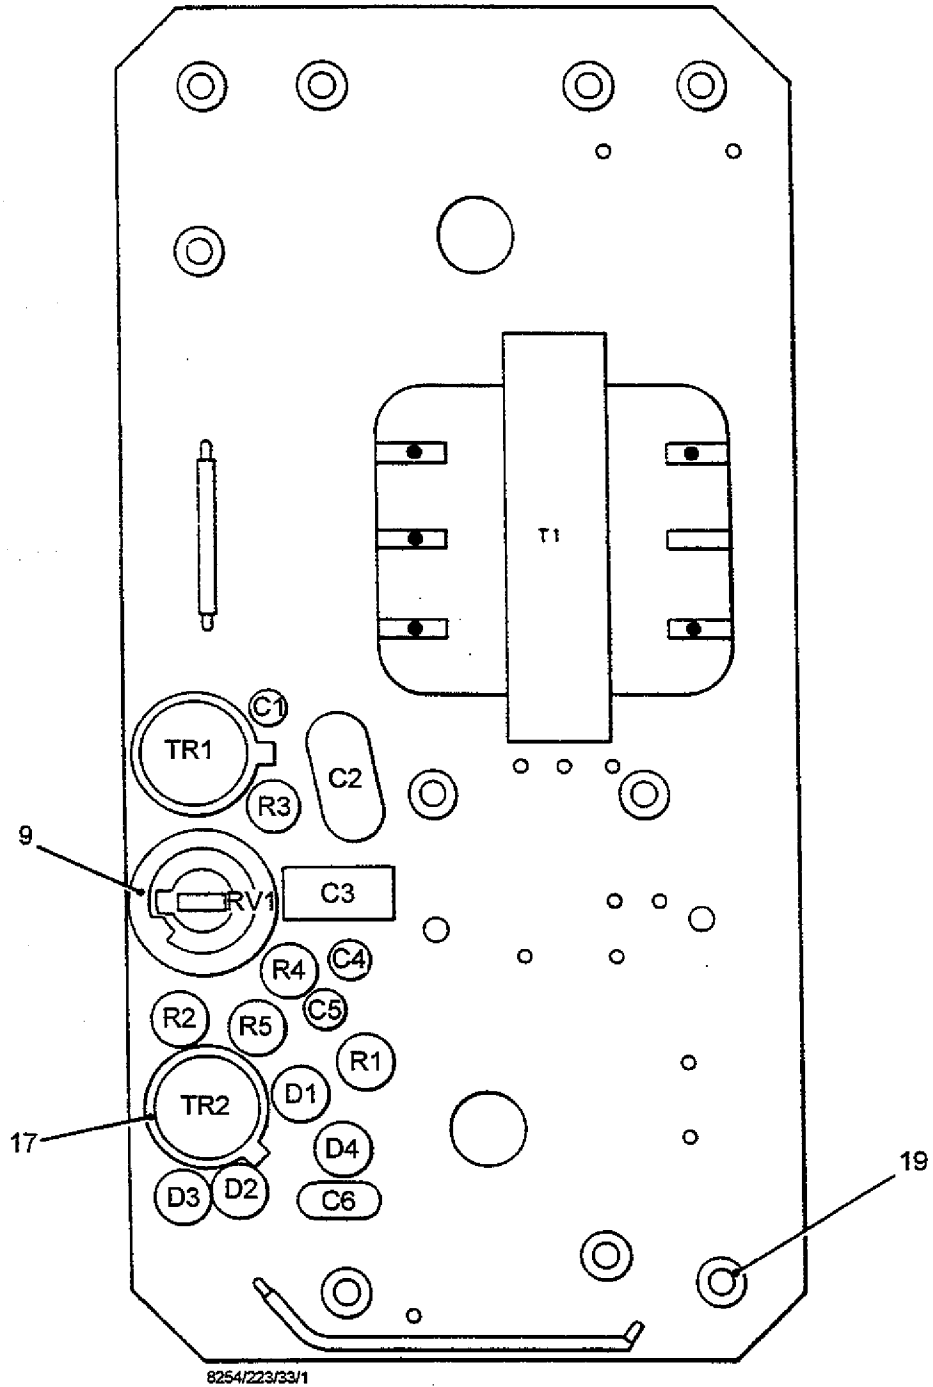
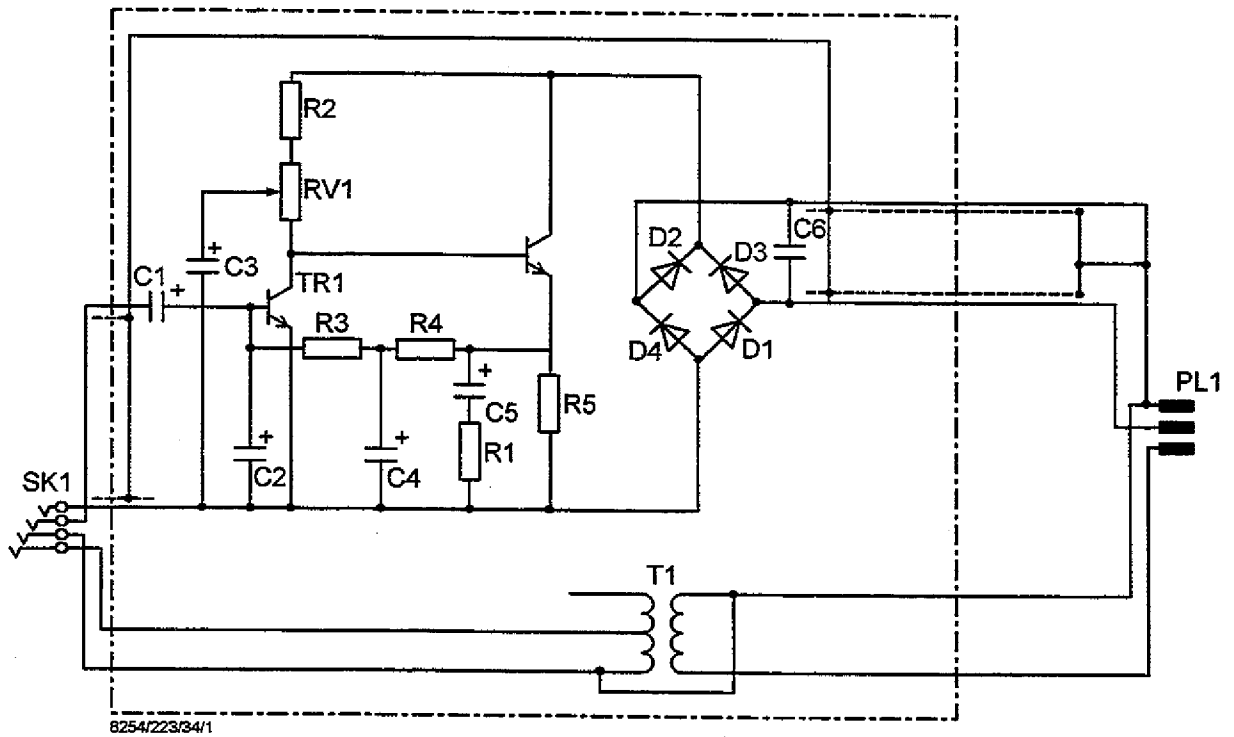

Fig 2 Panel, electronic circuit
Fig 3 Amplifier circuit diagram
Item numbers refer to Fig 2.
3 The PEC component layout is given in Fig 2 and the circuit diagram of the amplifier in Fig 3. External connections are made to the PEC through ten electrical contacts (19) as shown. The headset is connected to socket SK1 as a four-wire balanced connection and the intercommunication system is connected to plug PL1 as a three-wire unbalanced connection. From PL1, the earphone connection is taken to transformer T1 which changes the impedance of the circuit from 600 ohms unbalanced to 150 ohms balanced. The earphone output is taken to the headset through socket SK1.